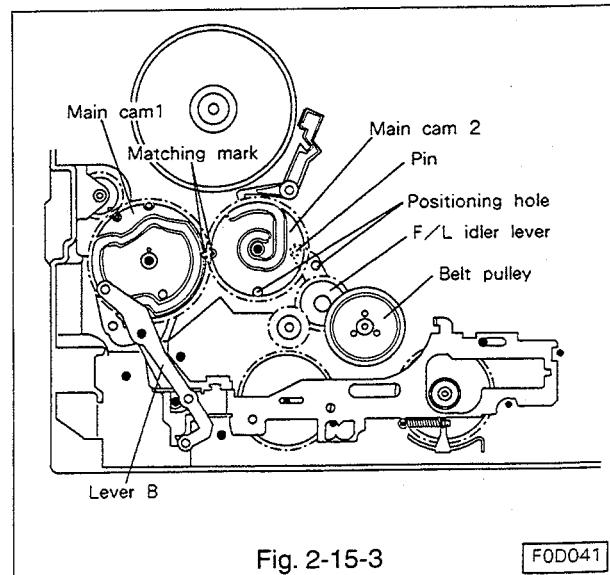

Fig. 2-15-3
- F. Assemble lever B to the shaft so that the pin of the lever shown in Fig. 2-15-3 enters the groove of the main cam 1. Secure the lever with a grip ring.
- G. Line the positioning hole of the F/L idler lever with that of the main plate.(Refer to Fig. 2-15-3.)
- H. Line the matching mark of main cam 2 with that of main cam 1, and also the positioning hole of main cam 2, and assemble the main cam 2 to the shaft. (Refer to Fig. 2-15-3.)